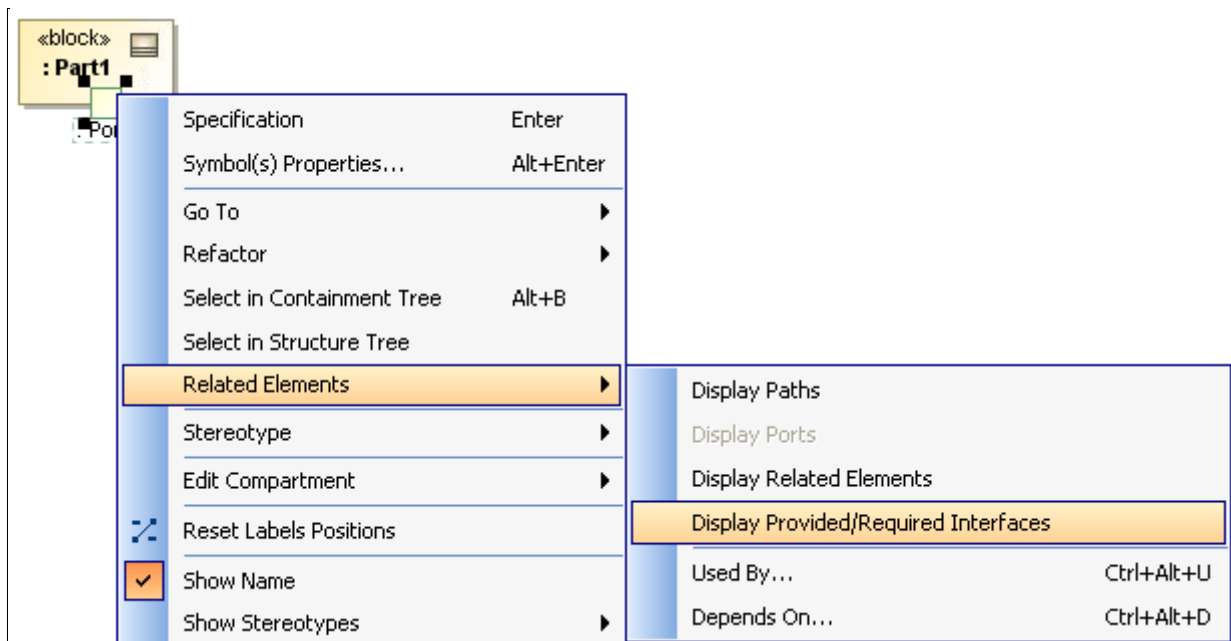

Figure 78 -- Port Shortcut Menu to Display Provided and Required Interface(s)
- select **Related Elements > Display Provided/Required Interfaces** (Figure 78).